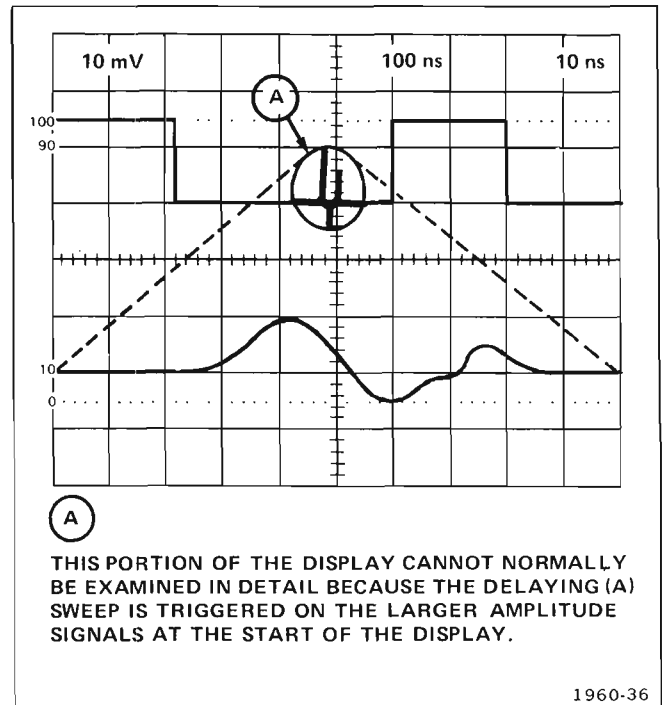

Fig. 1-10. Magnifying a selected segment of the delaying (A) sweep in the delay-time mode with mainframe alternate or chopped horizontal operation.
5. Use the following procedure to magnify a selected segment of the delaying (A) sweep waveform and determine apparent magnification in the delay-timemode.
- b. Set the appropriate triggering, position, deflection-factor, and sweep-rate controls for the desired dual-trace display. See the example in Fig. 1-10.
c. Turn the DELAY TIME control to position the intensified zone to the portion of the delaying (A) sweep waveform to be magnified.
d. Set the delayed (B) sweep unit sweep rate to select the desired duration of the magnified display as indicated by the length of the intensified zone.
e. Observe the magnified display on the delayed (B) sweep. See Fig. 1-10.
f. Determine apparent magnification by dividing the 7B85 TIME/DIV setting by the delayed (B) sweep unit sweep-rate setting.
Example: The apparent magnification of the delayed (B) sweep shown in Fig. 1-10 with a 7B85 TIME/DIV setting of .1 ms and a delayed (B) sweep unit sweep-rate setting of 1 μ s is: